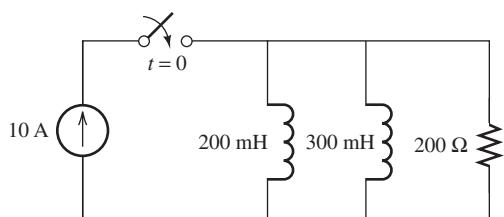

FIGURE P5.27 Circuit for Problem 5.27.
- 5.27 (A)** Find the current flow through the resistor, $i_R(t)$, for the circuit shown in Figure P5.27. Assume that the switch is closed at $t = 0$.